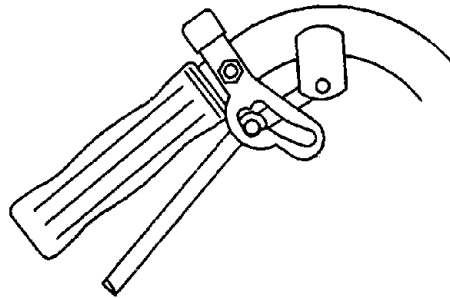

FIG. 16
1. With rear of machine still on jack stands and engine running at full throttle, move the speed control lever to the midway position. Move the respective drive lever upward until it reaches the **neutral** position and engage neutral lock latches. See Fig. 16. If the tire rotates in either direction, the length of the drive lever link will need to be adjusted.